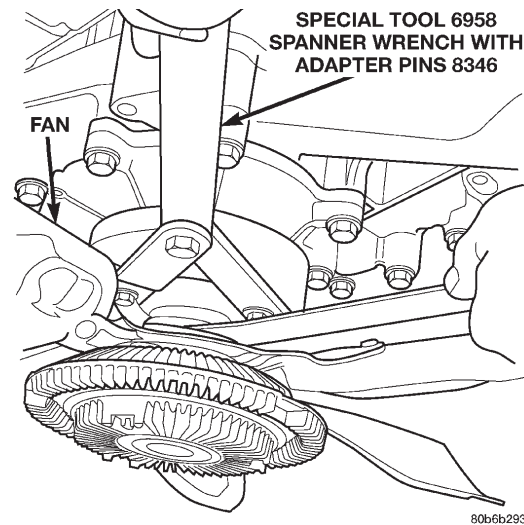

Fig. 41 Viscous Fan 4.7L Engine
(1) Using special tool 6958 Spanner Wrench and 8346 Adapters, remove the viscous fan from the water pump (Fig. 41).
- (5) Install the mounting bolts into the shroud
- (6) Attach the electrical connector onto the shroud, then connect the connector to the electric fan connector.
- (7) Install the viscous fan onto the water pump. Using special tool 6958 Spanner Wrench and 8346 Adapters, tighten the viscous fan onto the water pump (Fig. 41)